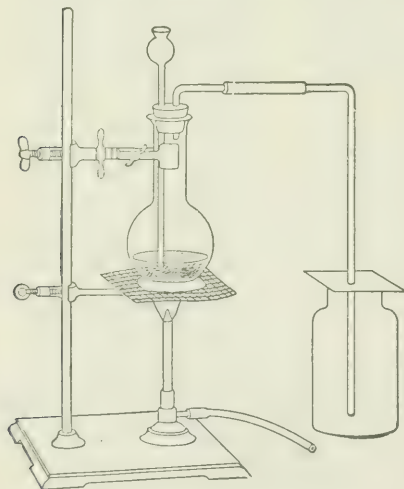

Fig. 40. Preparing hydrogen chloride.
**a. Preparation.** Arrange a flask with stopper, thistle tube, and delivery tube as shown in figure 40. Pour into the flask 7 cc. of water and then pour in slowly 20 cc. of concentrated sulphuric acid ( $\text{H}_2\text{SO}_4$ ).